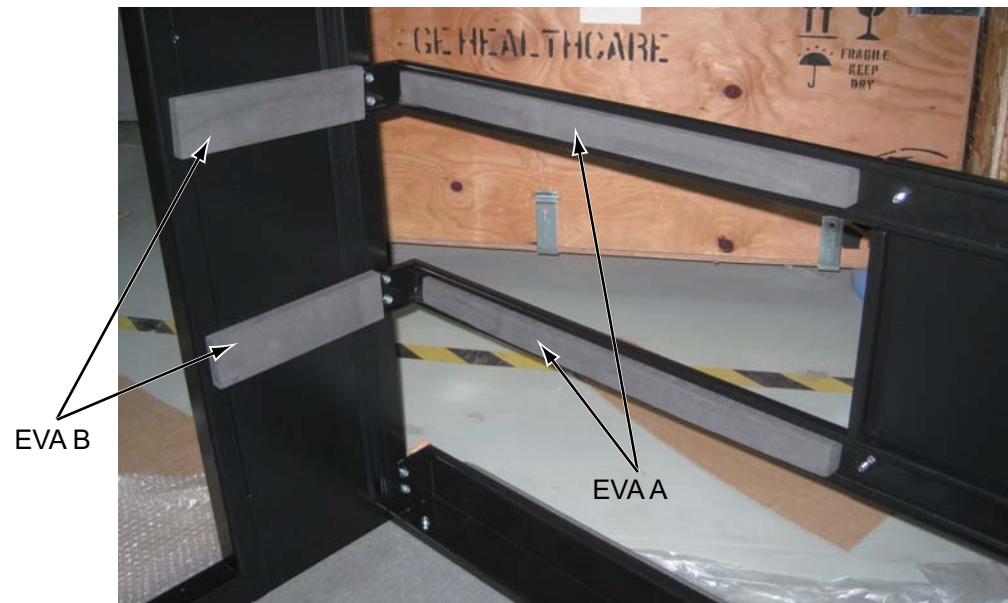

Figure C-6 EVA Attaching
- 8.) Stick EVA A on the teams and EVA B on the right leg as shown in Figure C-6.